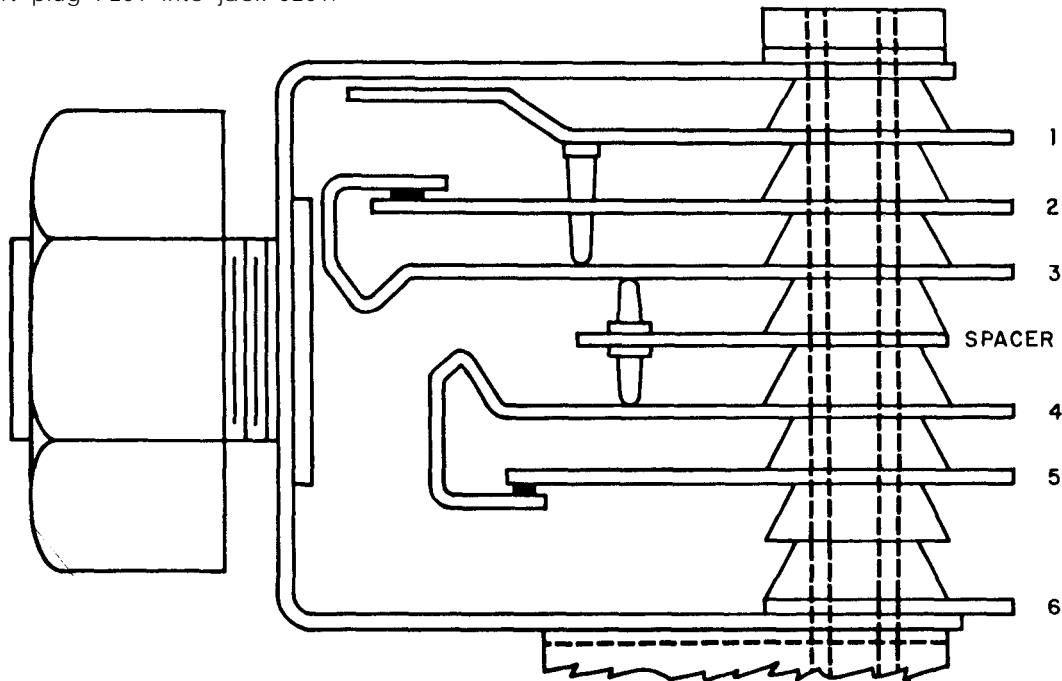

Figure 2-11. Jack J201, Contact Arrangement.
- b. *Jack J201 (fig. 2-11).*
- (1) Insert plug P201 into jack J201.